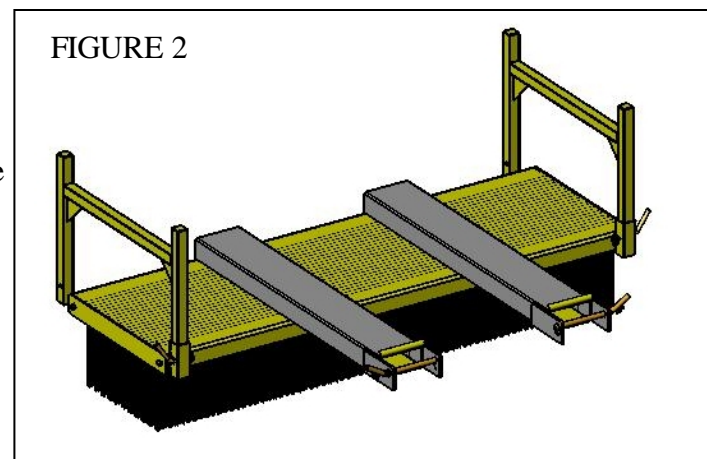

FIGURE 2
5. Remove leg retaining pins, remove legs and replace above unit. (FIG 2)